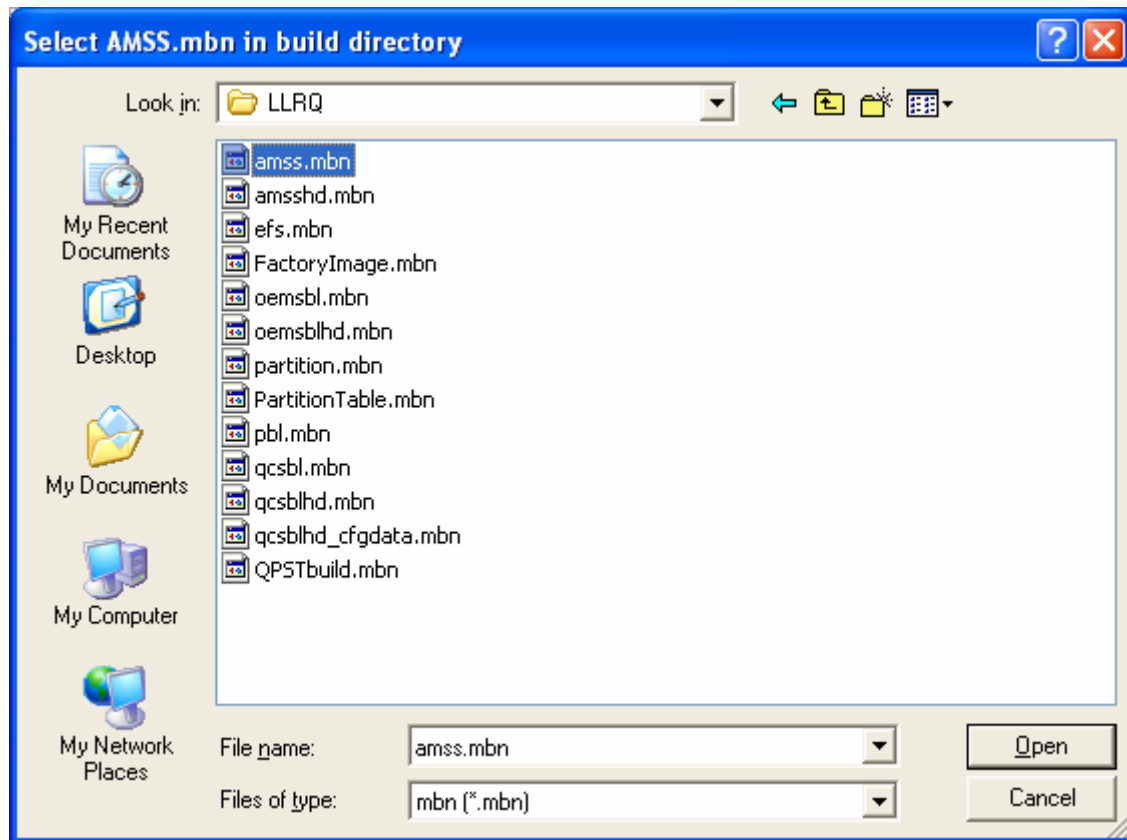

Figure 11-13 Build directory dialog
6. Click SELECT_AMSS_FILE_IN_BUILD_DIRECTORY and select amss.mbn in the build directory (Figure 11-13).